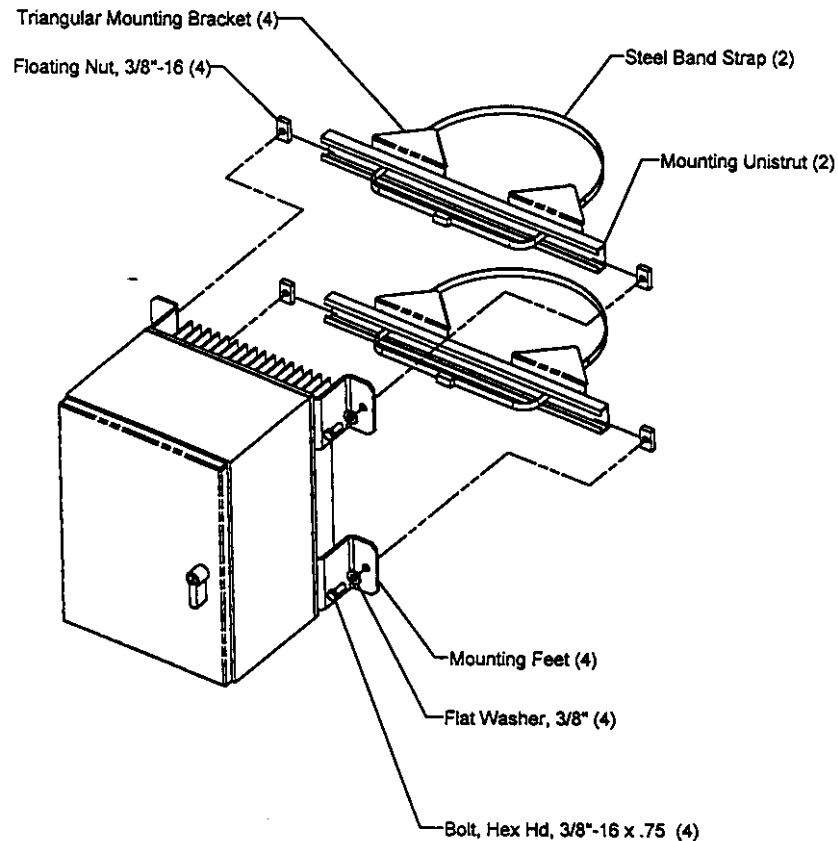

Figure 2 Pole Mounting
5. Amplifier Pole Installation, Figure 2.